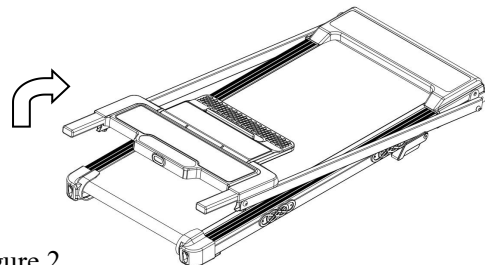

Figure 2
Step 2: As shown in (Figure 2), The upright column should be held and rotated upward in the direction indicated.